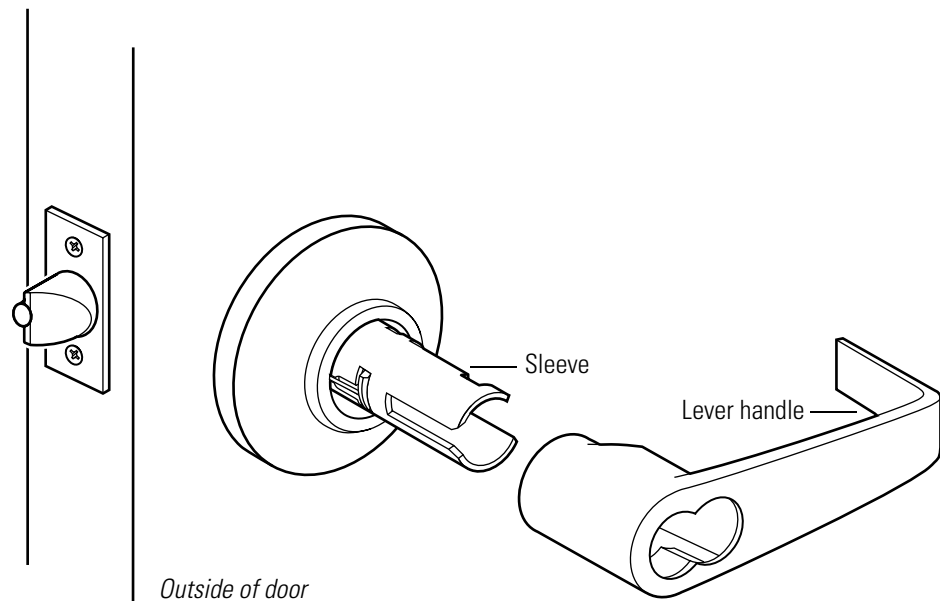

Figure 3.3 Reinstalling the lever (keyed lever shown)
1. Position the lever so that the handle points toward the door hinges, as shown in Figure 3.3.